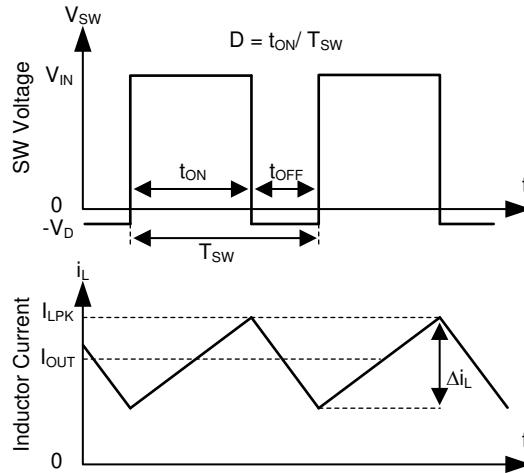

图 10-2. SW Node and Inductor Current Waveforms in Continuous Conduction Mode (CCM)
The following operating description of the TPS2586x-Q1 refers to the *Functional Block Diagram*. The TPS2586x-Q1 integrates a monolithic, synchronous, rectified, step-down, switch-mode converter with internal power MOSFETs and USB current-limit switches with charging ports auto-detection. The TPS2586x-Q1 offers a compact and high efficiency solution with excellent load and line regulation over a wide input supply range. The TPS2586x-Q1 supplies a regulated output voltage by turning on the high-side (HS) and low-side (LS) NMOS switches with controlled duty cycle. During high-side switch ON time, the SW pin voltage swings up to approximately V_{IN} . The inductor current i_L increases with linear slope $(V_{IN} - V_{OUT}) / L$. When the HS switch is turned off by the control logic, the LS switch is turned on after an anti-shoot-through dead time. Inductor current discharges through the LS switch with a slope of $-V_{OUT} / L$. The control parameter of a buck converter is defined as Duty Cycle $D = t_{ON} / T_{SW}$, where t_{ON} is the high-side switch ON time and T_{SW} is the switching period, shown in 图 10-2. The regulator control loop maintains a constant output voltage by adjusting the duty cycle D. In an ideal buck converter, where losses are ignored, D is proportional to the output voltage and inversely proportional to the input voltage: $D = V_{OUT} / V_{IN}$.